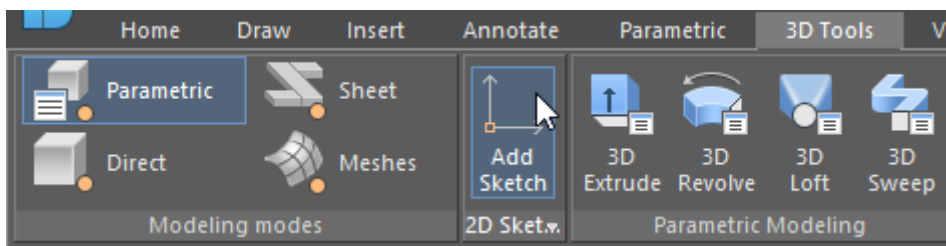

Fig. 10. Add Sketch command on the 3D Tools tab
3.4. Let's design a sketch on the front end of the object. On the **3D Tools** tab, click **Add Sketch** command (Fig. 10) and press LMB to select the front end of the 3D model. The system has switched to sketch mode. Draw a circle with a $\varnothing 95$ diameter.